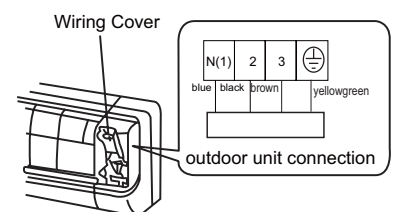

Fig.2
2. Remove the wiring cover .Connect and fix the power connection cord to the terminal board as shown in Fig 2.